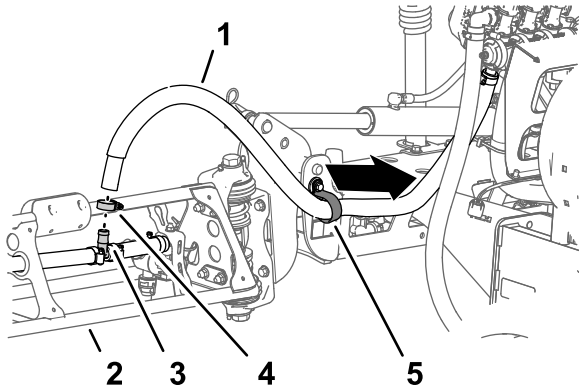

Figure 33
1. At the outer spray section, remove the hose clamp that secures the sprayer-section hose to the barbed T-fitting (Figure 33).
2. Remove the hose from the T-fitting (Figure 33).
3. Remove the free end of the hose from the R-clamp (Figure 33).